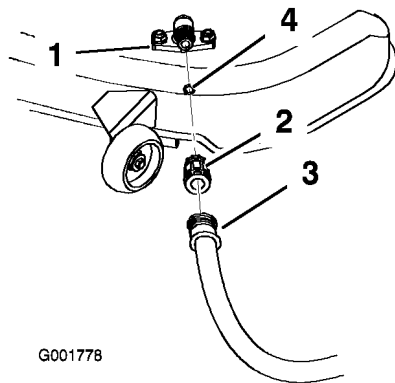

Figure 50
3. Attach the hose coupling to the end of the mower washout fitting, and turn the water on high (Figure 50).